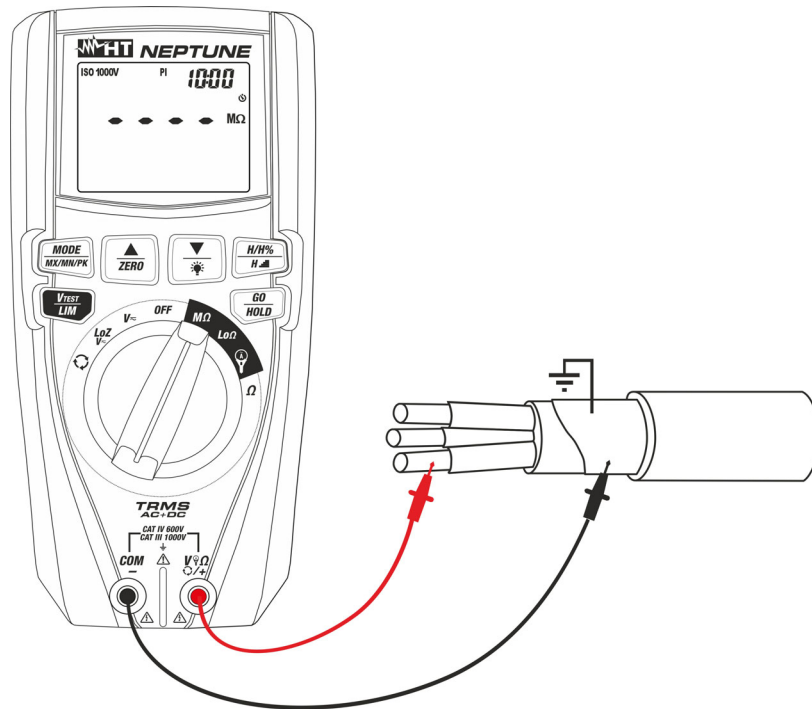

Fig. 22: Use of the instrument for insulation resistance measurement in PI mode
6. Insert the red lead into input terminal **VΩ/+/+** and the black lead into input terminal **COM/-** and possible alligator clips, and connect the instrument to the appliance to be tested (see Fig. 22).